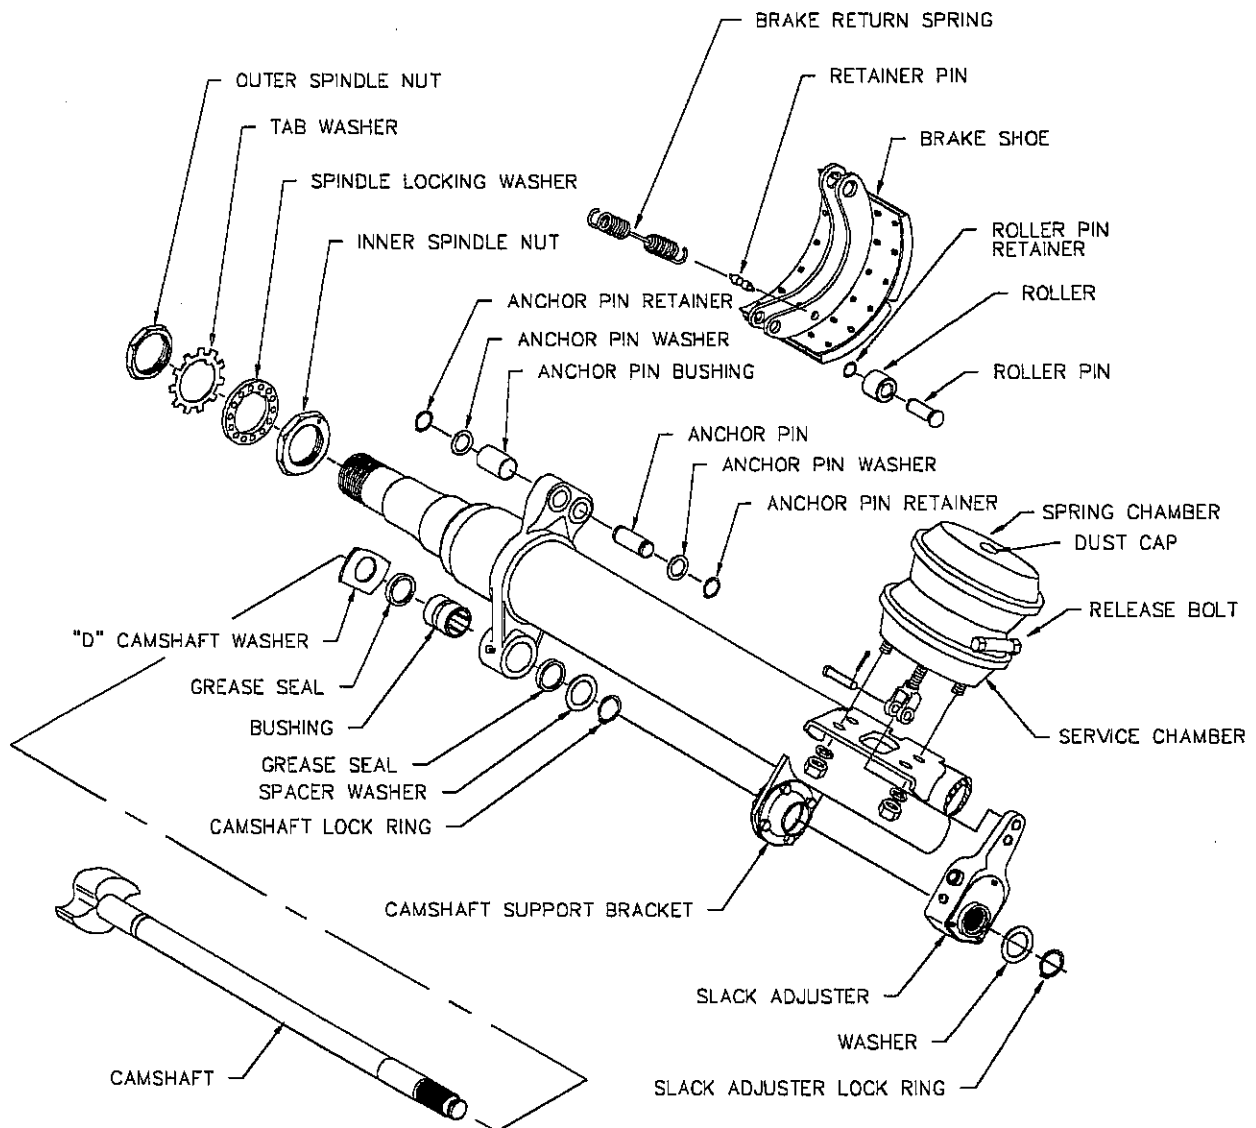

Figure 4-10 Axle and Brake Assembly
2. Remove dust cap from the rear of the spring brake chamber (see Figure 4-10).
b. Disassembly for 12-1/4" X 7-1/2" Brakes (see Figure 4-10)